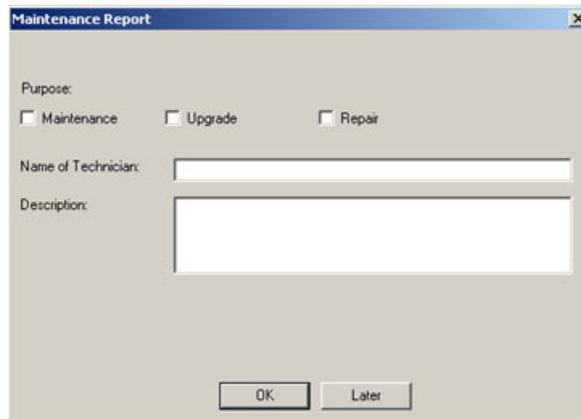

Figure 4-40 Maintenance Report
**NOTE:** After Hardware or Software modifications normally the “Maintenance Report” message box (Figure 4-40) appears automatically on the screen.